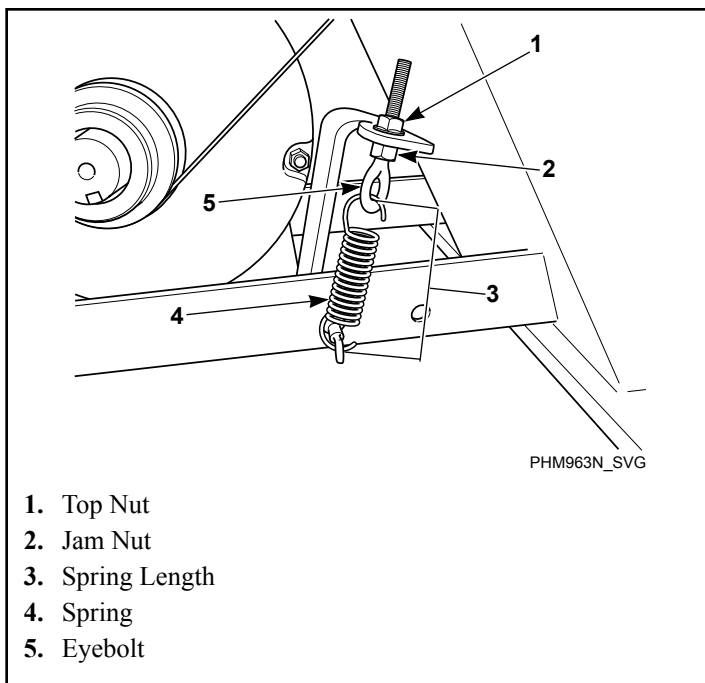

Figure 12
- **Frequency Gauge.** Tighten eyebolt top nut until the correct frequency (refer to *Table 3*) is obtained mid-span. Torque jam nut to spring bracket to 20.6 ± 2 ft.-lbs. Refer to *Figure 12*.
- **Tension Gauge.** Tighten eyebolt top nut until the proper belt gauge (refer to *Table 3*) is obtained mid-span. Torque jam nut to spring bracket to 20.6 ± 2 ft.-lbs. Refer to *Figure 12*.
- **Spring Length.** Tighten eyebolt top nut until the spring measures the correct distance between the hooks. Refer to *Table 2*. Torque jam nut to spring bracket to 20.6 ± 2 ft.-lbs. Refer to *Figure 12*.
- **Maintain Tension During Belt Removal.** If proper tension is achieved, tape the jam nut in place and loosen eyebolt top nut to release the belt. Replace belt and retighten eyebolt top nut back to jam nut position. Refer to *Figure 12*.